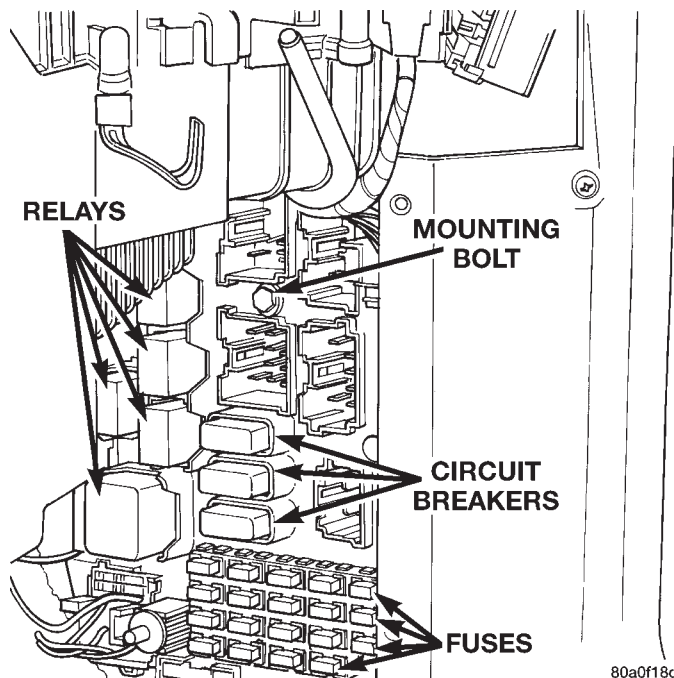

Fig. 23 Junction Block Remove/Install
(4) Remove the two screws that secure the right cowl side trim panel to the right front door opening trim.
(5) Remove the right cowl side trim panel.
(6) Unplug all of the wire harness connectors from the junction block cavities.
(7) Remove the bolt that secures the junction block to the cowl side panel (Fig. 23).
(8) On Left-Hand Drive (LHD) models only, lift upwards on the junction block to remove its slide-tab mount off of the mounting bracket on the right cowl side panel.
(9) Remove the junction block from the vehicle.
(10) Reverse the removal procedures to install.